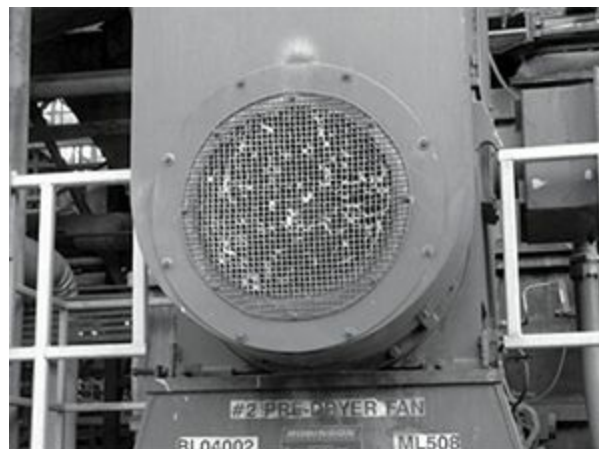

Figure 4.3—Electric motor with debris beginning to block the air inlet screen. This could lead to overheating and the eventual failure of the internal windings.
- Are the air filters or fins on a TEFC motor clear so air can circulate (see Figure 4.3 and 4.4)?